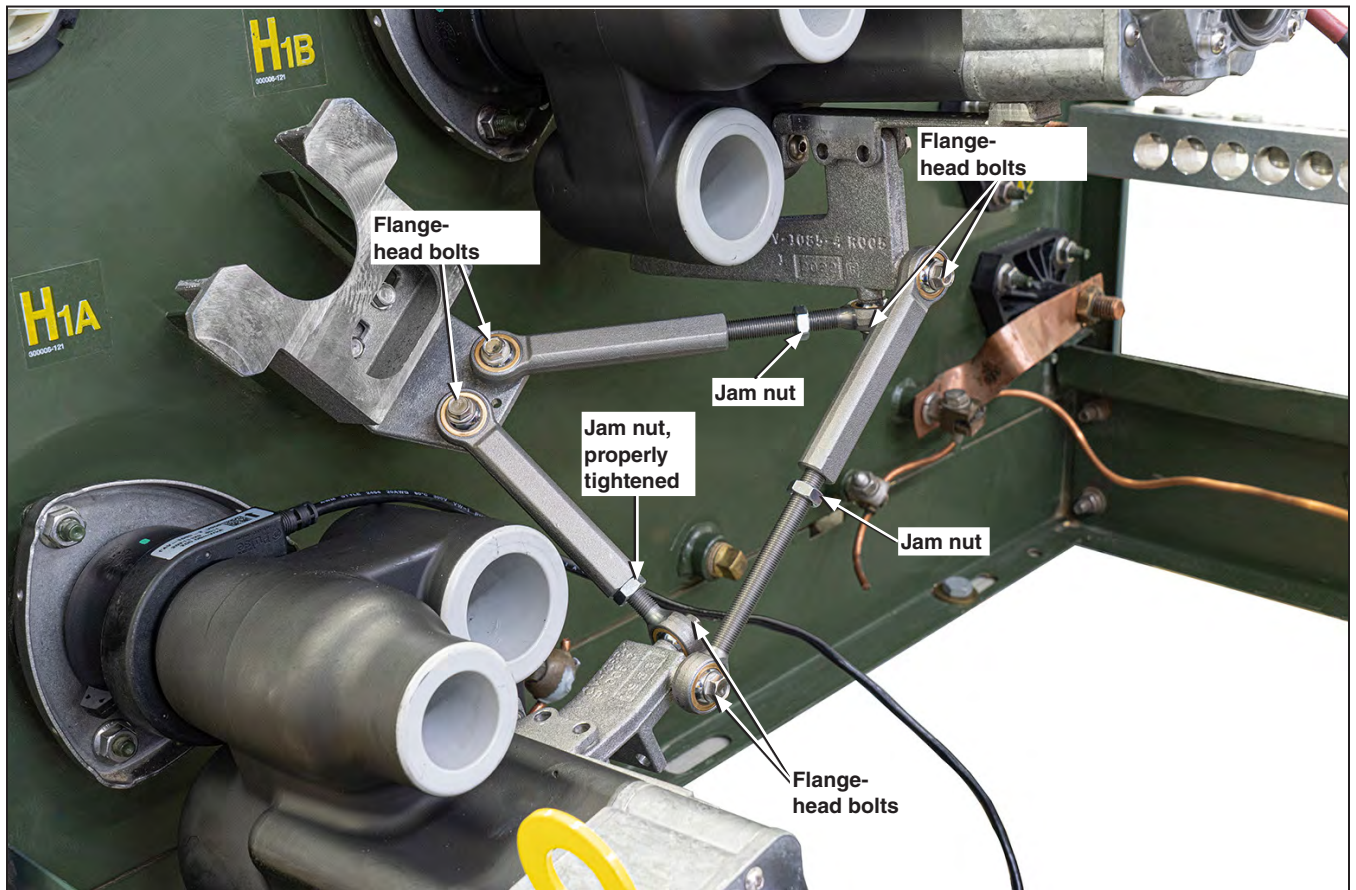

Figure 27. Tighten all bolts and jam nuts.
- STEP 5.** Tighten the three jam nuts, one on each of the two adjustable links and one on the cross brace link using the 9/16-inch combination wrench hand tight. See Figure 27.
- ❑ The two attaching the adjustable links to the parking stand link bracket (See Figure 27 on page 21.)
- ❑ The four attaching the adjustable links to the bushing well interrupters and cross-brace link (See Figure 27 on page 21.)
- ❑ Make sure all jam nuts are tight against the non-adjustable portion of the adjustable links and cross-brace link. See Figure 27 on page 21.